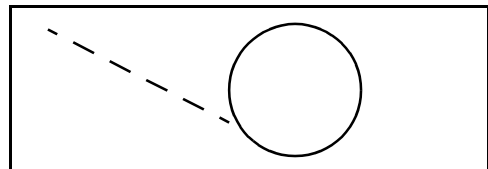

Figure 7.1 A pattern with a lead-in line
*Figure 7.1* shows a pattern with a lead-in line.